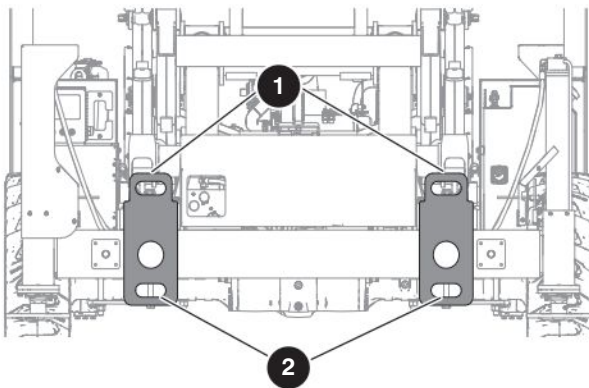
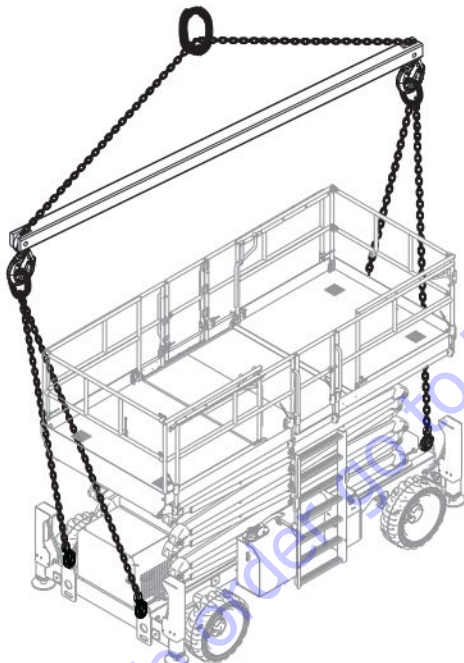

Figure 09 Lift and tie-down points
Figure 10 Appropriate method to hoist
- Attach the rigging to all **four lift points** ❶. Refer to *Figure 09* and *Figure 10*.
When you transport the MEWP, it must be attached to a truck or trailer deck. Use the available tie-down points **②** to attach the MEWP. Refer to Figure 09 If you do not obey, there is a risk of death or serious injury.
- Tie-down the MEWP to the transport vehicle using the four tie-down points **②**. Refer to Figure 09.